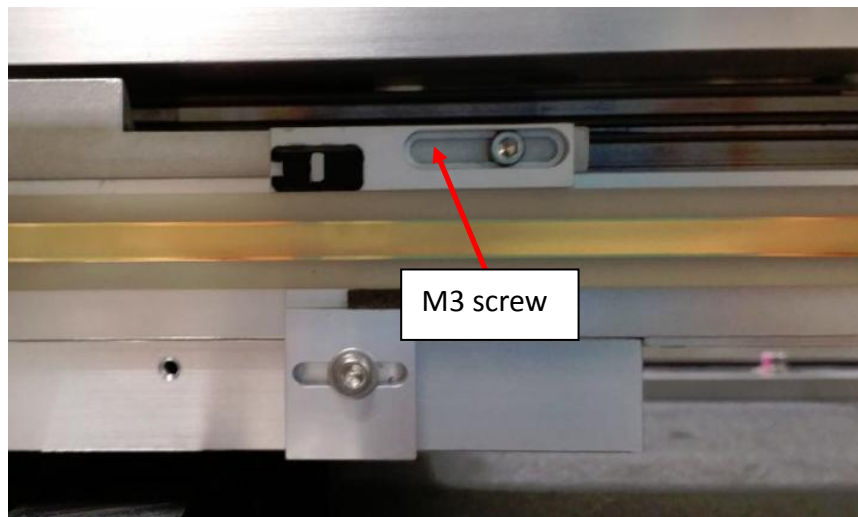

Figure 6 Home Sensor M3 Screw
6. Loosen the M3 screw as shown below in the Figure 6.
8. Once the home sensor is adjusted, tighten the M3 screw as shown in Figure 6.